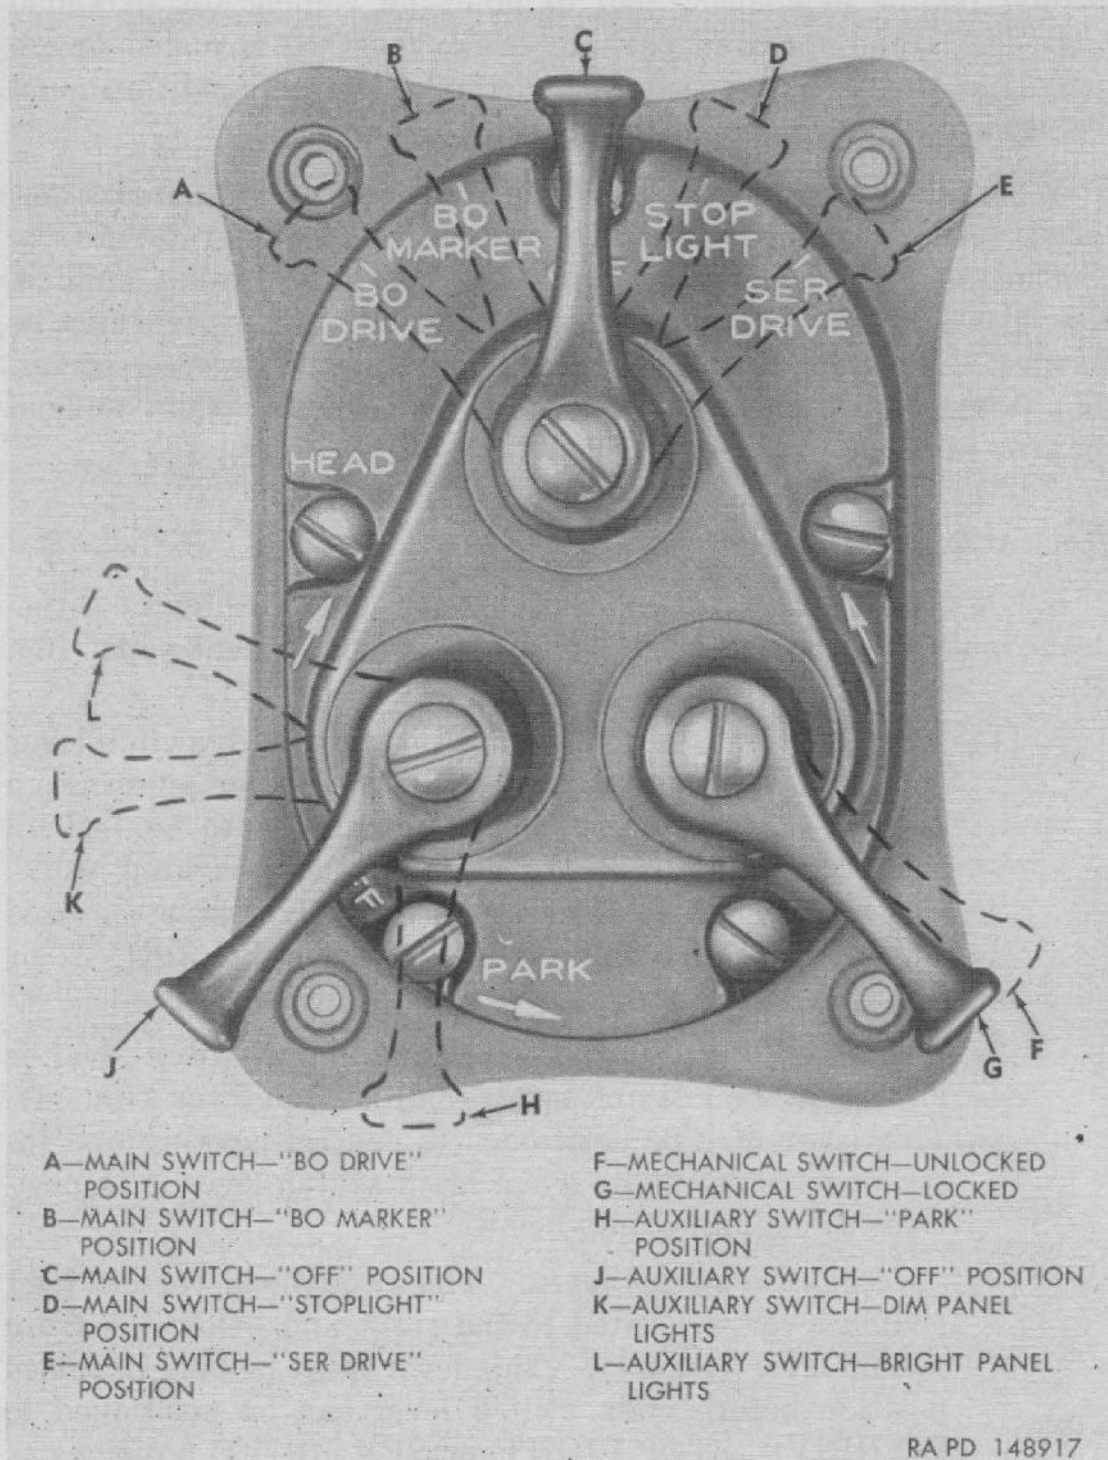

Figure 14. Main light switch positions.
a. **MAIN LIGHT SWITCH.** All lights are controlled by the three-lever main light switch (fig. 14) located on instrument panel (fig. 8).
- (1) *Main switch lever.* The five-position main switch lever is located at upper part of switch with lever pointing up (fig. 14). This lever can be positioned to control all lights except instrument panel lights and parking lights. The mechanical (or locking) switch lever must be used when positioning main switch lever to BO DRIVE, or STOP LIGHT or SER DRIVE positions.
- (2) *Auxiliary switch lever.* The auxiliary switch lever is located to the left and below main switch lever (fig. 14). This lever may be positioned to control parking and instrument panel lights when main switch lever is in positions as explained in b below.
- (3) *Mechanical switch lever.* The mechanical (or locking) switch lever is located to the right and below the main switch lever (fig. 14). This lever must be held in raised position before main switch lever can be positioned to BO DRIVE, STOP LIGHT, or SER DRIVE positions.